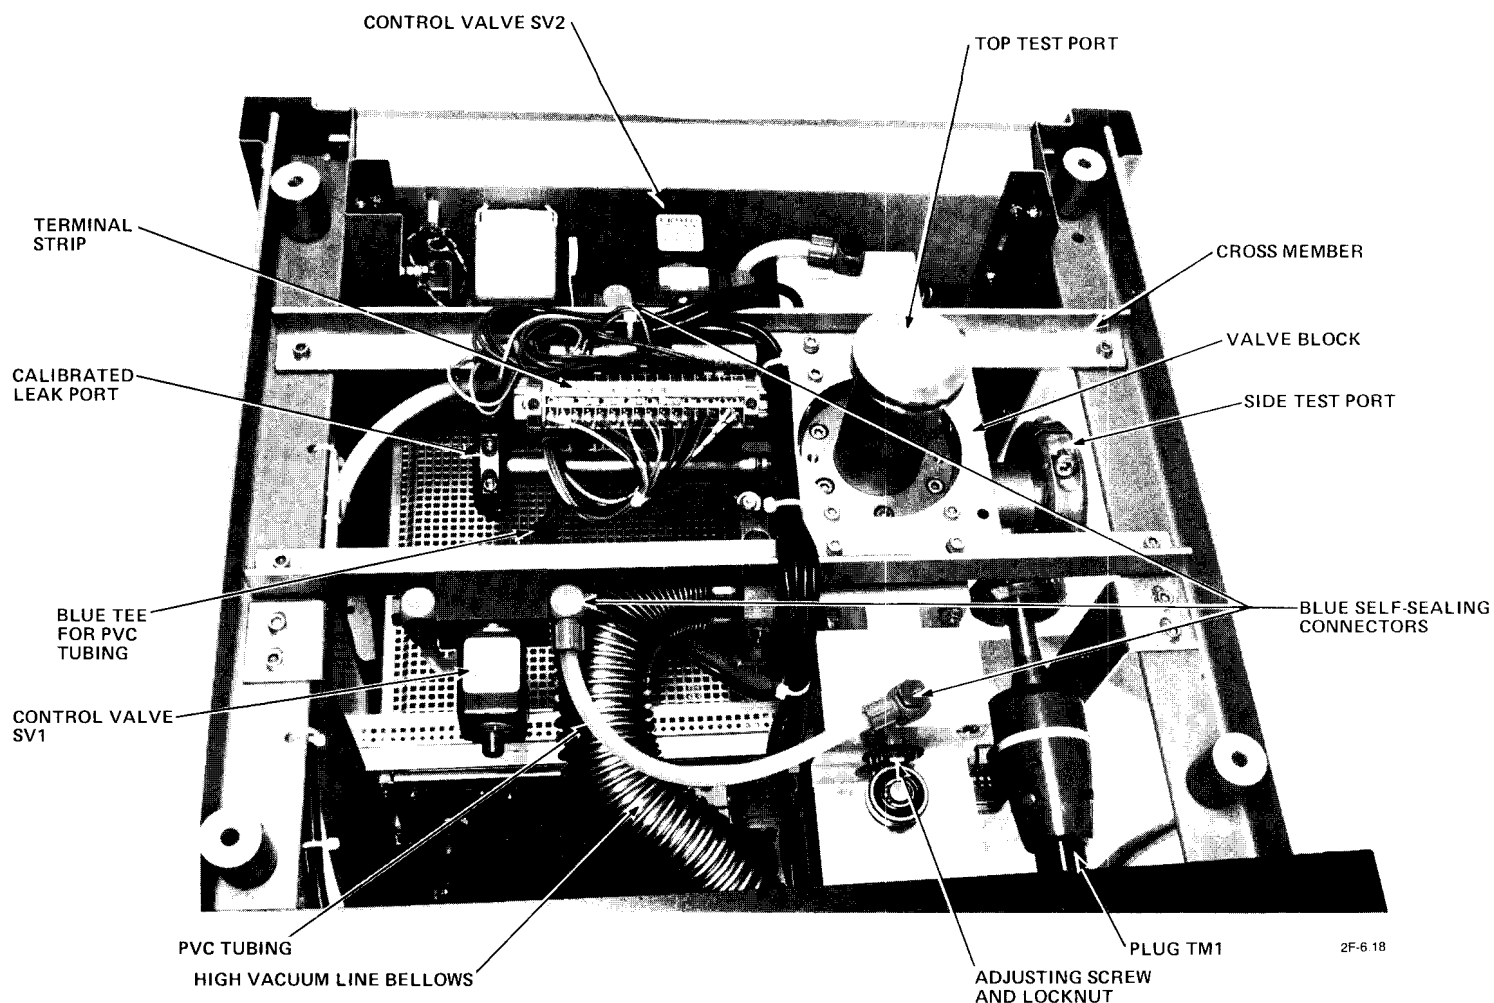

Figure 8-5 - Top of Leak Detector with Larger Work Top Removed
Valves V1 and V2 are mounted in a valve block which is fixed to a cross member. Also mounted on the valve block are control valves SV1 and SV2, venting valve V3, the PI gauge head, the control motor for valve V2, and the optional calibrated leak (see Figure 8-5 and 8-6). The wiring for the valves connects plug G to a terminal strip attached to the cross member (see Figures 8-5 and 8-18).
2. Remove plug TM1 from the PI gauge tube (see Figure 8-5) and plug G from the back of the EL module (see Figure 8-18).
4. Disconnect the high vacuum-line bellows to the cold trap directly as the flange of the valve block (see Figure 8-5).
5. Remove the white PVC tube from the stem of the blue tee by unscrewing the nut and pulling the PVC tubing out (see Figure 8-5).
7. Remove the four allen-head capscrews securing the cross members to the top of the leak detector frame (see Figure 8-5).
- b. Measure the distance between the hex head of the adjusting screw and the locknut so that you can maintain the spacing during reassembly (see Figure 8-5).
- c. Remove the adjusting screw with locknut (see Figures 8-5).
1. Proceed as follows to clean the test ports while the valve block is installed in the leak detector (see Figure 8-5).